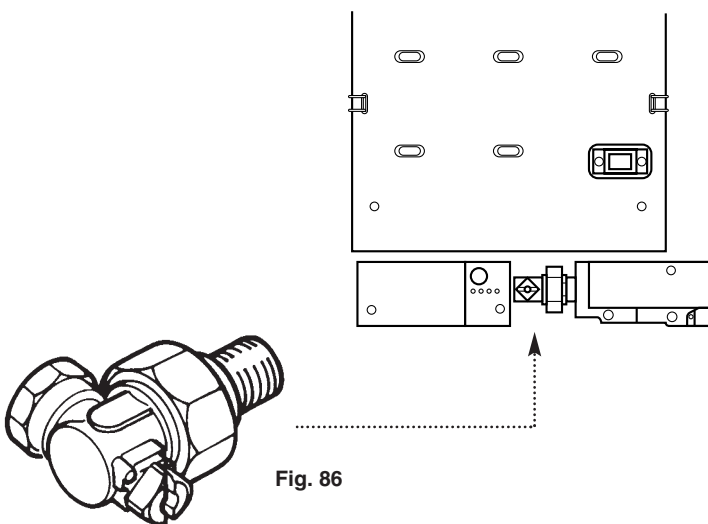

Fig. 86
1. Connection to the gas supply is RC $\frac{1}{2}$  ( $\frac{1}{2}$  in BSPT internal) located at the rear of the gas cock (Fig. 86).